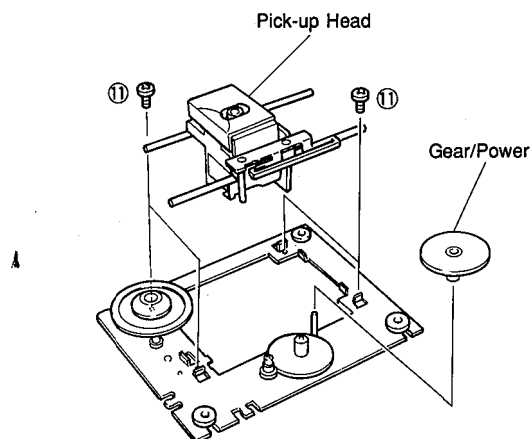

Fig. 6
- Pull out the Gear/Power as shown in Fig. 6.
- Remove 4 screws (⑪) and then remove the Pick-up Head as shown in Fig. 6.